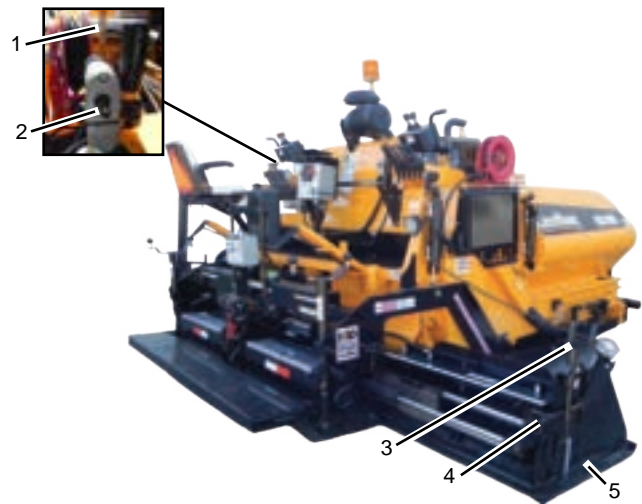

Figure 4-43. Screed, Flight Screw and Endgate
The main screed and screed extensions are heated by heating elements and equipped with replaceable, heavy-duty wear plates. Use the screed extensions when paving widths exceeding eight (8) feet. **(Figure 4-43)** The screed extensions should be heated before making any adjustments using the wrench provided.
5. On the first pass, turn the endgate depth screw to lower the endgate until it is about 1/4-inch (6.35 mm) below the screed. **(Figure 4-43)**